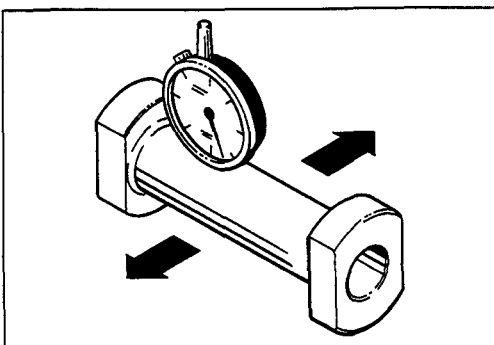

Figure 25
1. Roll the depth gauge cylinder on a flat surface and adjust the dial to zero at its highest point. (Fig. 25). A work bench is not an accurate flat surface, therefore at least a piece of ground gauge plate should be used.